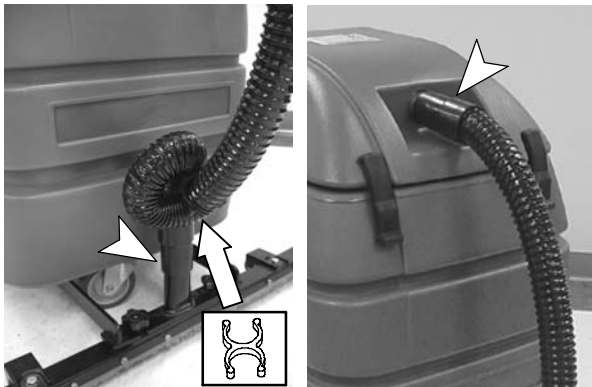

FIG. 7
- Connect 117 cm (46 in) vacuum hose to squeegee assembly and to neck on machine lid (Figure 7).